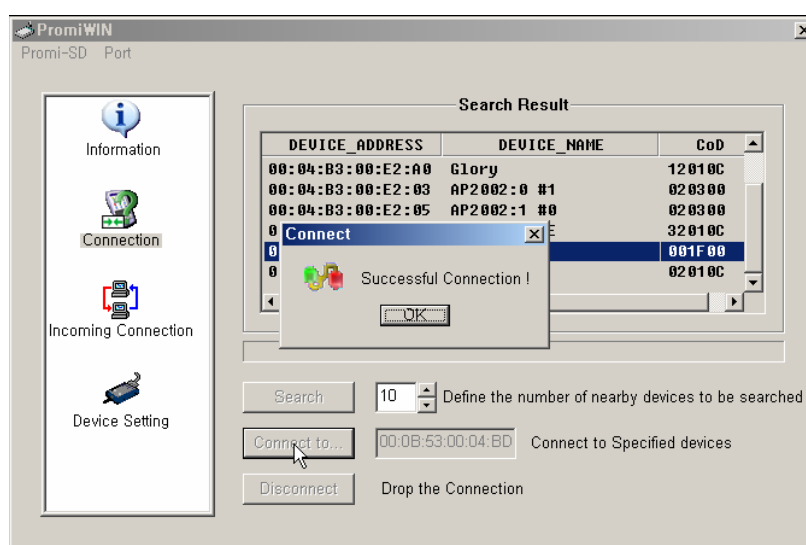

Figure 5.
13. Click the 'Connect to...' button and the 'Connection Complete' Popup box will appear as shown in Figure 5.